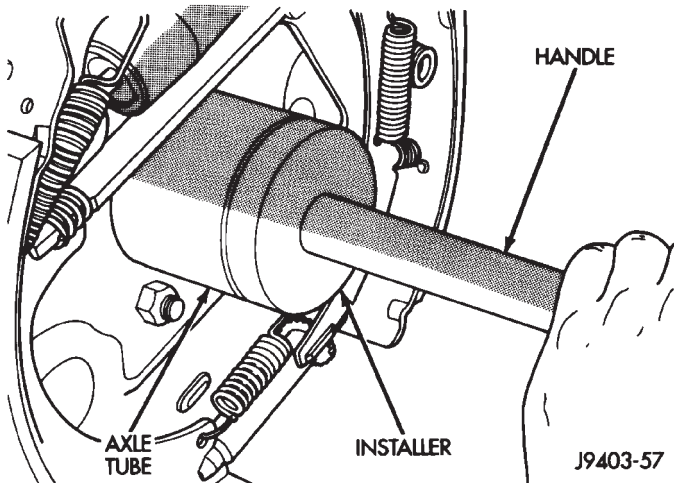

Fig. 12 Axle Shaft Seal and Bearing Installation
(1) Wipe the axle tube bore clean. Remove any old sealer or burrs from the tube.
(2) Install the axle shaft bearing with Installer C-4198 and Handle C-4171 (Fig. 12). Ensure that the bearing part number is against the installer. Verify that the bearing is installed straight and the tool fully contacts the axle tube when seating the bearing.
(3) Install a new axle seal with Installer C-4076-B and Handle C-4735-1. When the tool contacts the axle tube, the seal is installed to the correct depth.
(4) Coat the lip of the seal with axle lubricant for protection prior to installing the axle shaft.
(5) Install the axle shaft.